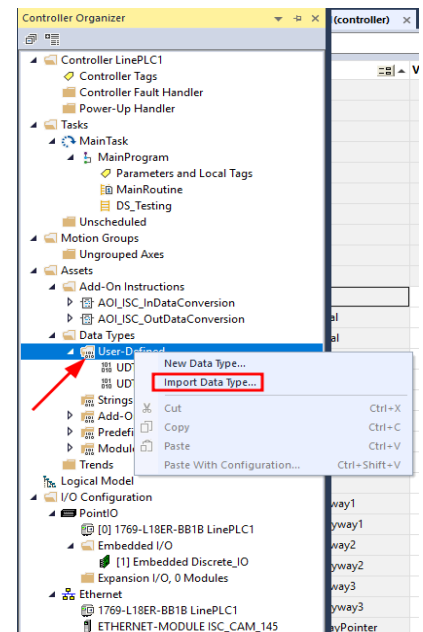

Figure 39: User-Defined Data Type Import
30. Right-Click on “User-Defined” under “Data Types” and select “Import Data Type,” Figure 39.